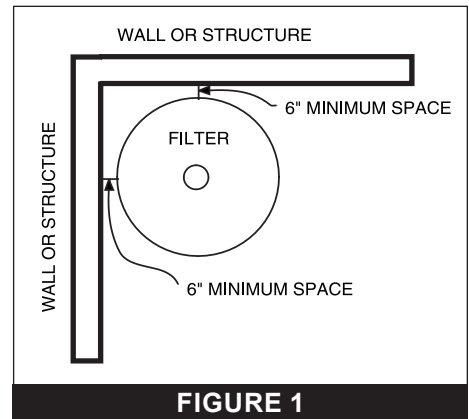

FIGURE 1
5. Allow sufficient clearance around the filter for regular inspection of filter clamp tension and positioning. Refer to **FIGURE 1**.